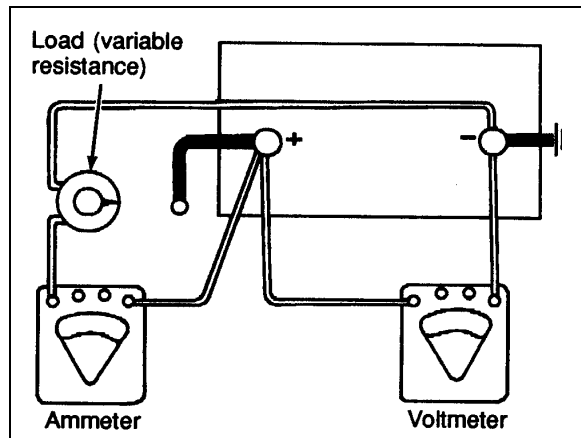

FIGURE 14: LOAD TEST 06064
Disconnect cables from the battery and attach alligator clamps to the contact lead pad on the battery as shown in figure 14. Connect a load equal to half the CCA across the terminal for 5 seconds to remove surface charge from the battery.
1. Connect a voltmeter, ammeter, and a variable load resistance as illustrated in figure 14.